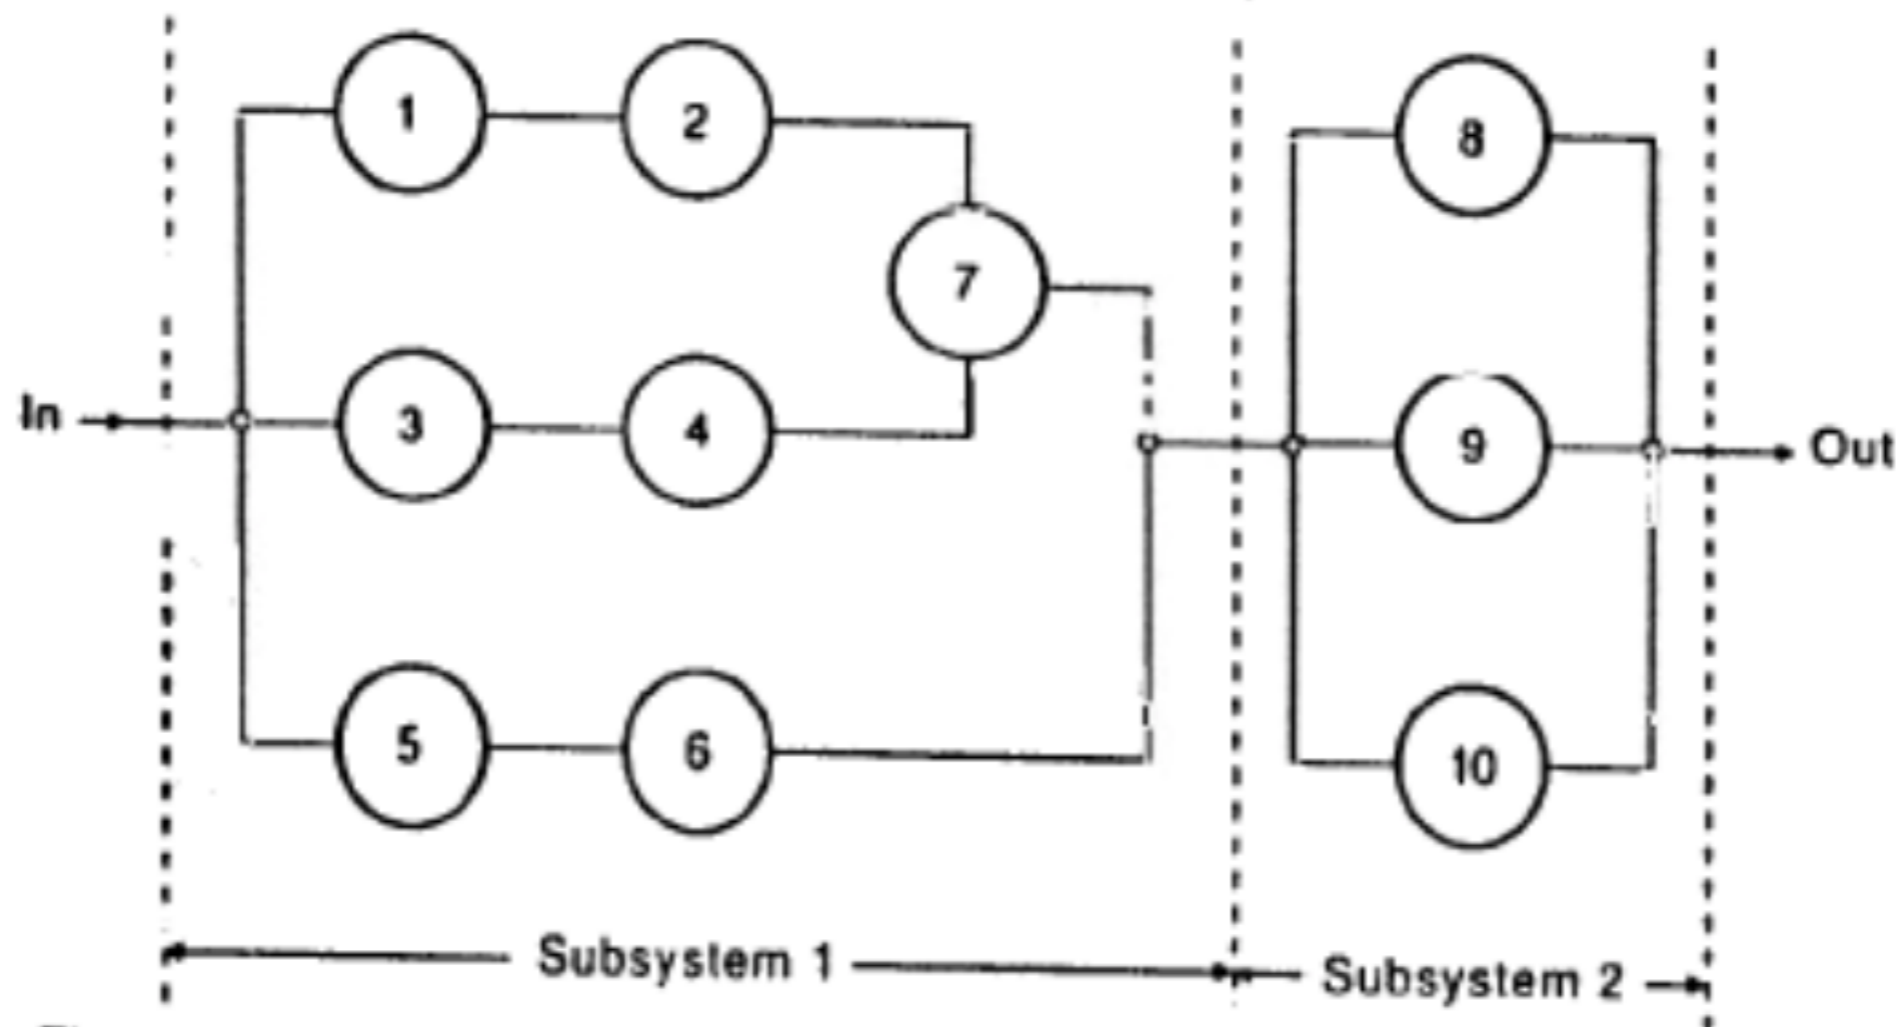

Fig. 4.16
- 9 Consider the reliability block diagram shown in Figure 4.16. System success requires at least one path of subsystem 1 and at least two paths of subsystem 2 to be working. Evaluate the reliability of the system if the reliability of components 1–6 is 0.9, the reliability of component 7 is 0.99 and the reliability of components 8–10 is 0.85. How many of these systems must be connected in parallel to achieve a minimum system reliability of 0.999?